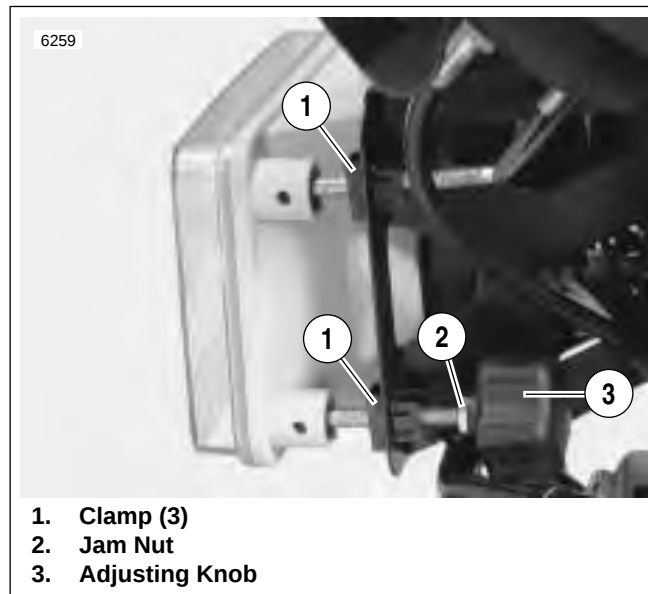

Figure 7-38. Installing Headlamp
3. Attach headlamp bulb connector (8) [4].
- b. See Figure 7-38. Compress clamps (1) on headlamp mounting studs. Insert each clamp through front fairing mount.
- c. Place jam nut (2) on lower left mounting stud. Install adjusting knob (3) next to jam nut.